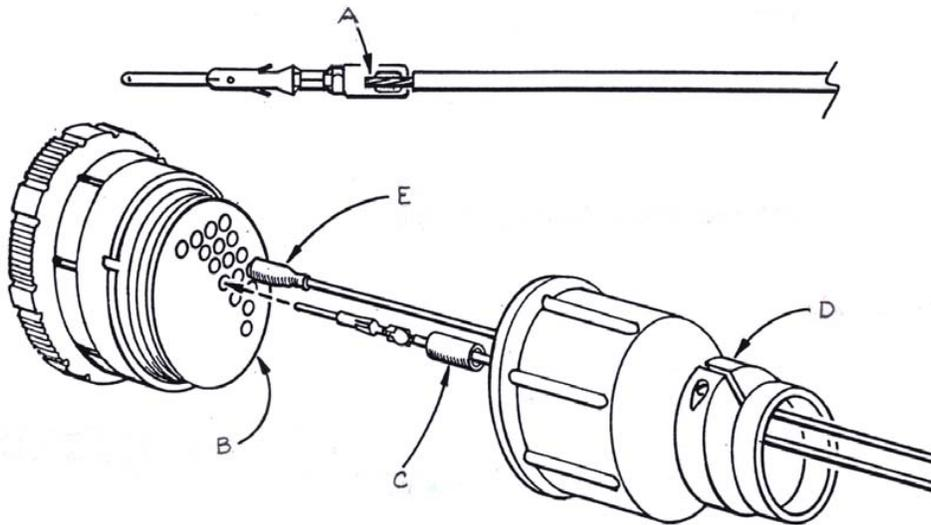
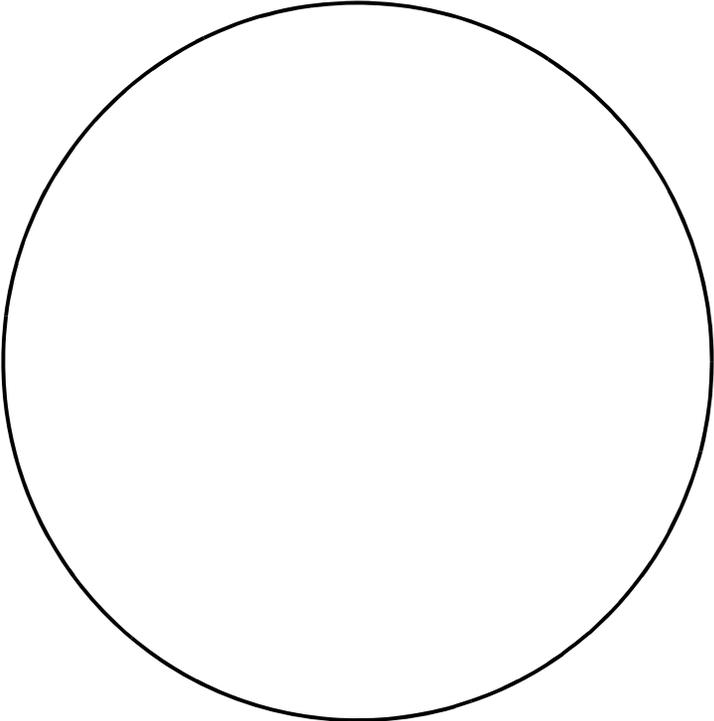

Figure 3-28: Remote Connector Assembly
Figure 3-29: Wire Side of Remote Connector Plug
(See Figure 3-28.)
2. Cut the heat shrinkable insulating tubes into 1/2-inch (13 mm) lengths. Slide a 1/2-inch long insulating tube onto each wire. Slide the cable clamp over the jacket. (Item D in Figure 3-28.)
See Figure 3-28; Figure 3-29; and Table 3-10 in this section.